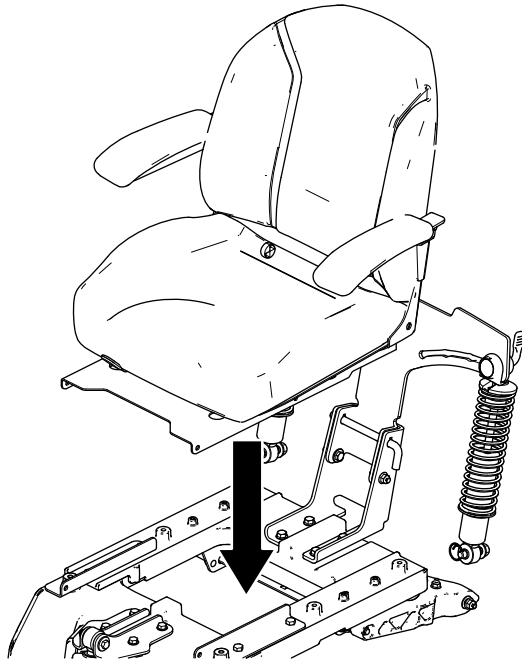

Figure 5
2. Place the seat assembly onto the platform (Figure 5).